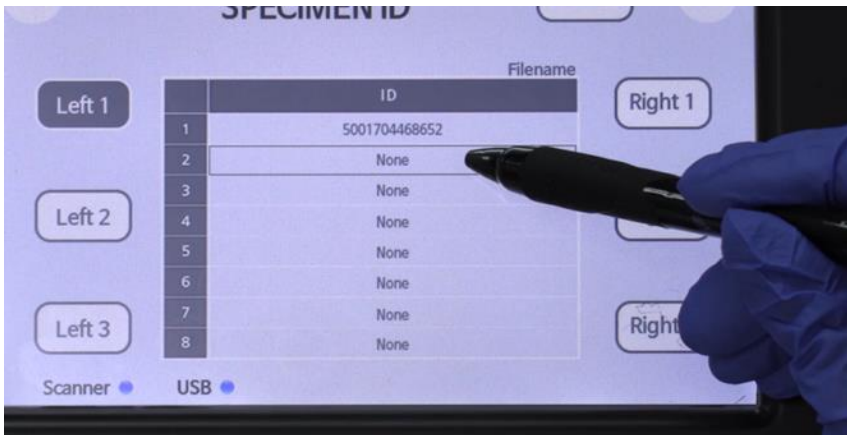

Figure 24. Sample location option.
6. Tap desired location of sample (1-8) to import barcode data (see figure 24 below). Scan the sample's barcode with barcode reader until sample's barcode data displays on screen. Repeat steps 4 and 5 until all the sample data is recorded.